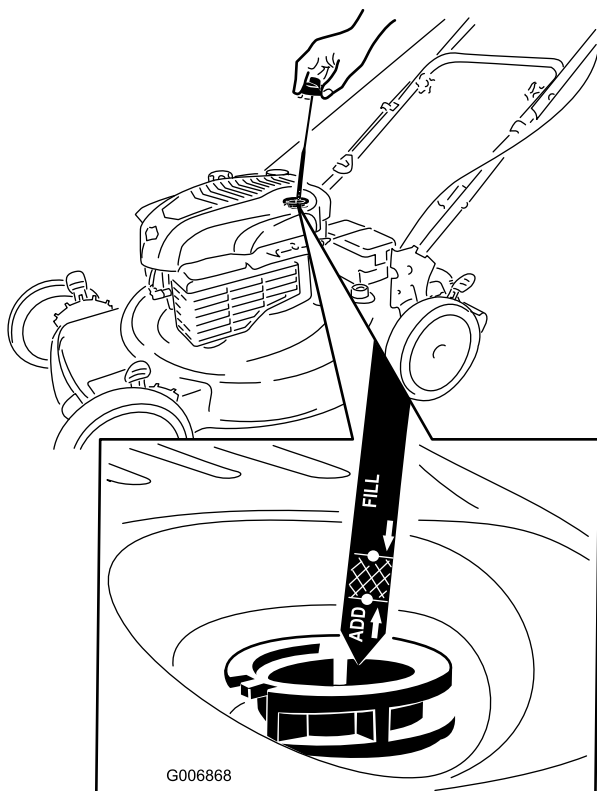

Figure 7
1. Remove the dipstick (Figure 7).
2. **Slowly** pour oil into the oil fill tube until the oil level reaches the **Full** line on the dipstick (Figure 7). **Do not overfill.** (Max. fill: 20 oz. (0.59 l), type: SAE 30W detergent oil with an API service classification of SF, SG, SH, SJ, SL, or higher.)